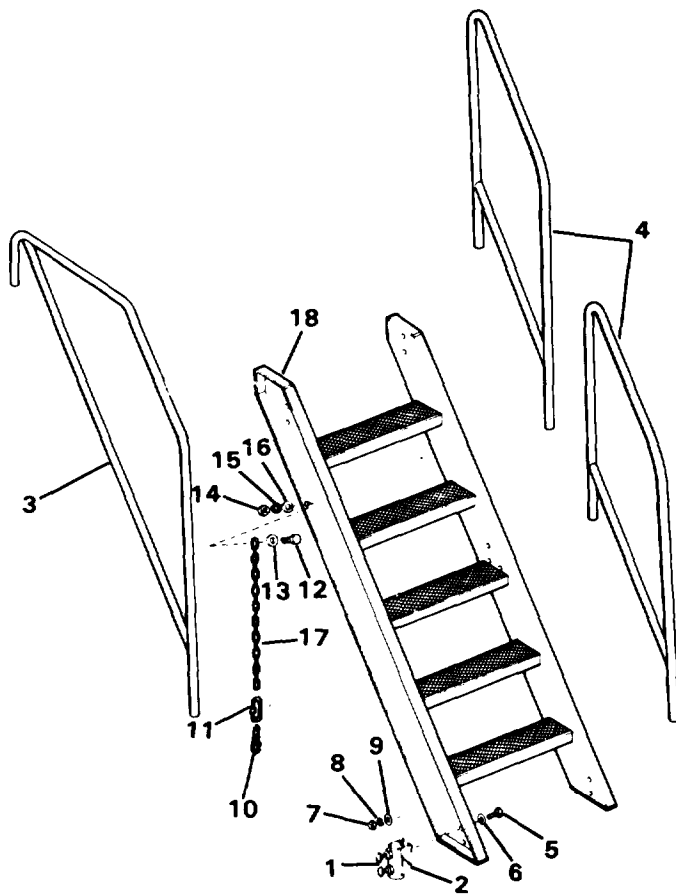

Figure 4-82. Ladders
- a. Loosen wing nuts (1, Figure 4-82) on six handrail clamps (2) and remove handrails (3 and 4).
- b. Remove capscrews (5), washers (6), nuts (7), lockwashers (8) and washers (9). Remove six handrail clamps (2).